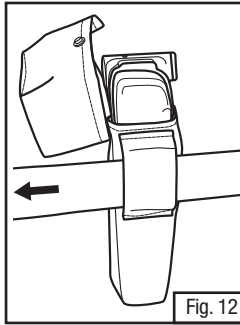

Fig. 12
5. After ensuring that the adapter and battery are fully seated into the lower portion of holster, position the holster on the waist belt so that it is located on the user's right hand side (Fig. 12).